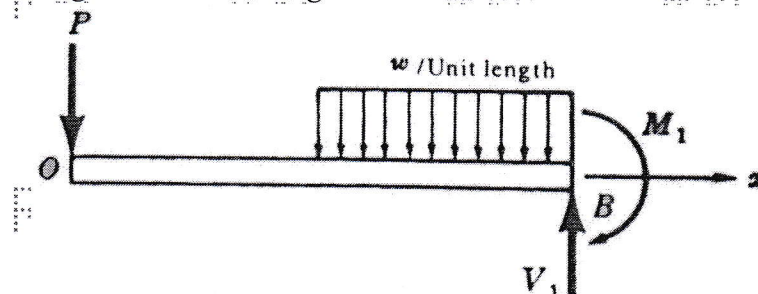

Figure: 1
4. A cantilever beam loaded by a concentrated load at the free end together with a uniform load distributed over the right half of the beam. Plot the shear and moment diagrams shown in figure 1. [10]